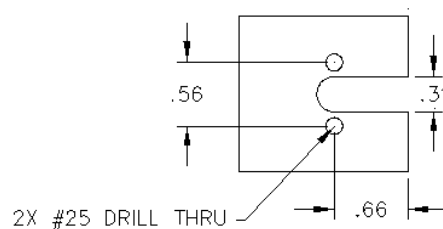

Figure 3: Recommended Mounting Plate Dimensions
- Drill two #25 holes 9/16 inches apart and a 0.31 inch diameter slot in the mounting plate (see Figure 3). **Note:** The plate should be a thickness of 1/8 inch or less.